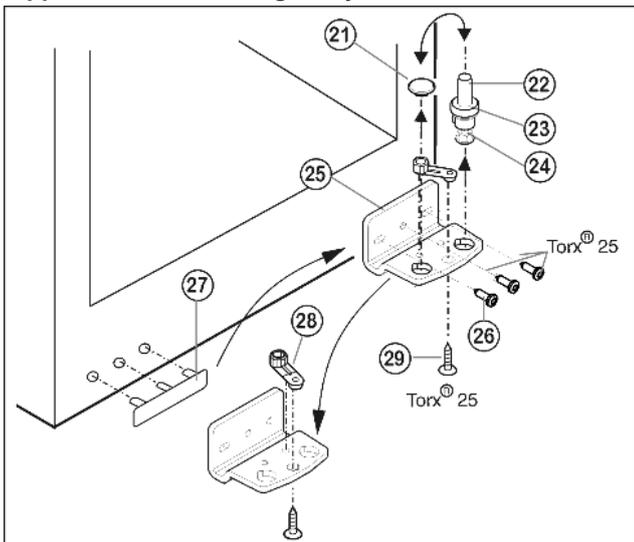

Fig. 6
- ▶ Lift out the bearing pin *Fig. 6 (22)* together with washer *Fig. 6 (23)* and foot *Fig. 6 (24)*.
- ▶ Lift off the stopper *Fig. 6 (21)*.
- ▶ Unscrew *Fig. 6 (26)* the turn hinge *Fig. 6 (25)*.
- ▶ Unscrew *Fig. 6 (29)* the bearing element *Fig. 6 (28)*, transfer it to the opposite location hole of the turn hinge and screw it firmly into place.
- ▶ Carefully lift off the cover on the handle side *Fig. 6 (27)* and transfer it to the opposite side.
- ▶ Screw the turn hinge *Fig. 6 (25)* firmly into place on the new hinge side, possibly using a cordless screwdriver (**with 4 Nm**).
- ▶ Re-insert the stopper *Fig. 6 (21)* into the other hole.
- ▶ Re-insert the bearing pin *Fig. 6 (22)* together with washer and foot. In so doing, pay attention that the locating lug points backwards